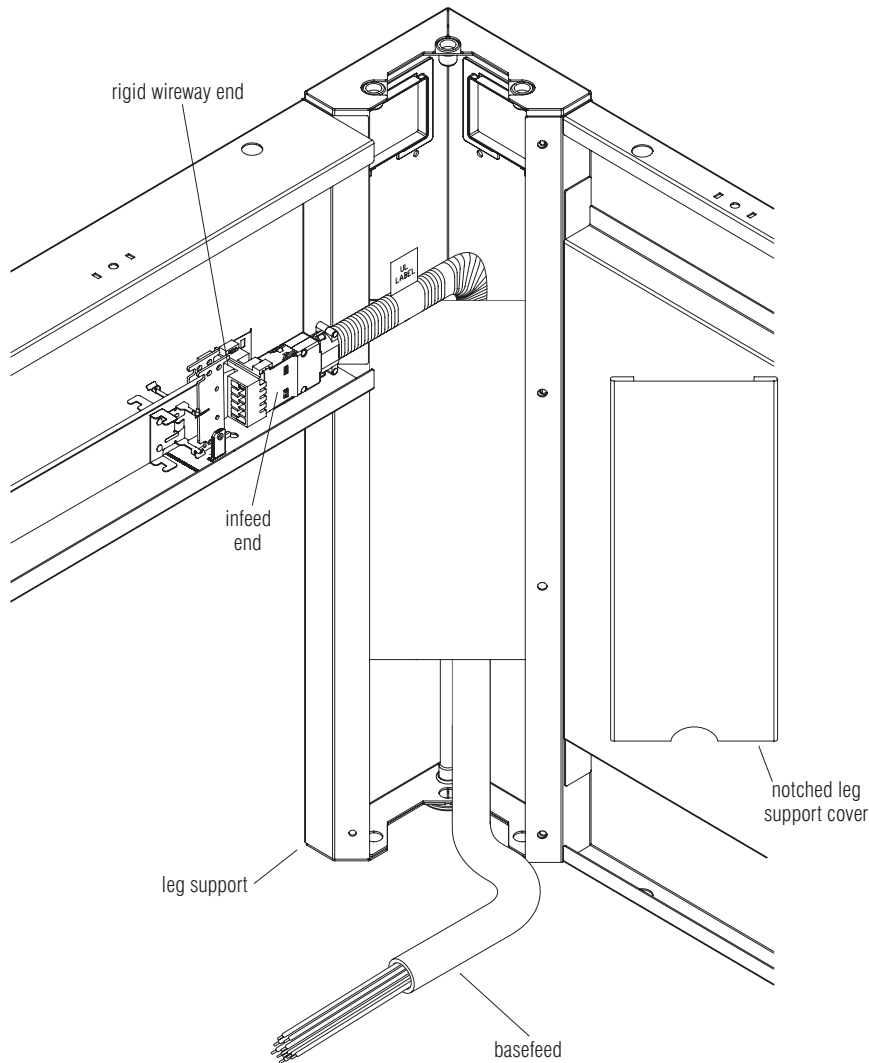

Figure 1
1. Run base feed through lower grommet, if applicable, or through opening at bottom of leg cover, up to modesty panel beam. It may be necessary to remove leg covers to properly route the conduit (Figure 1).